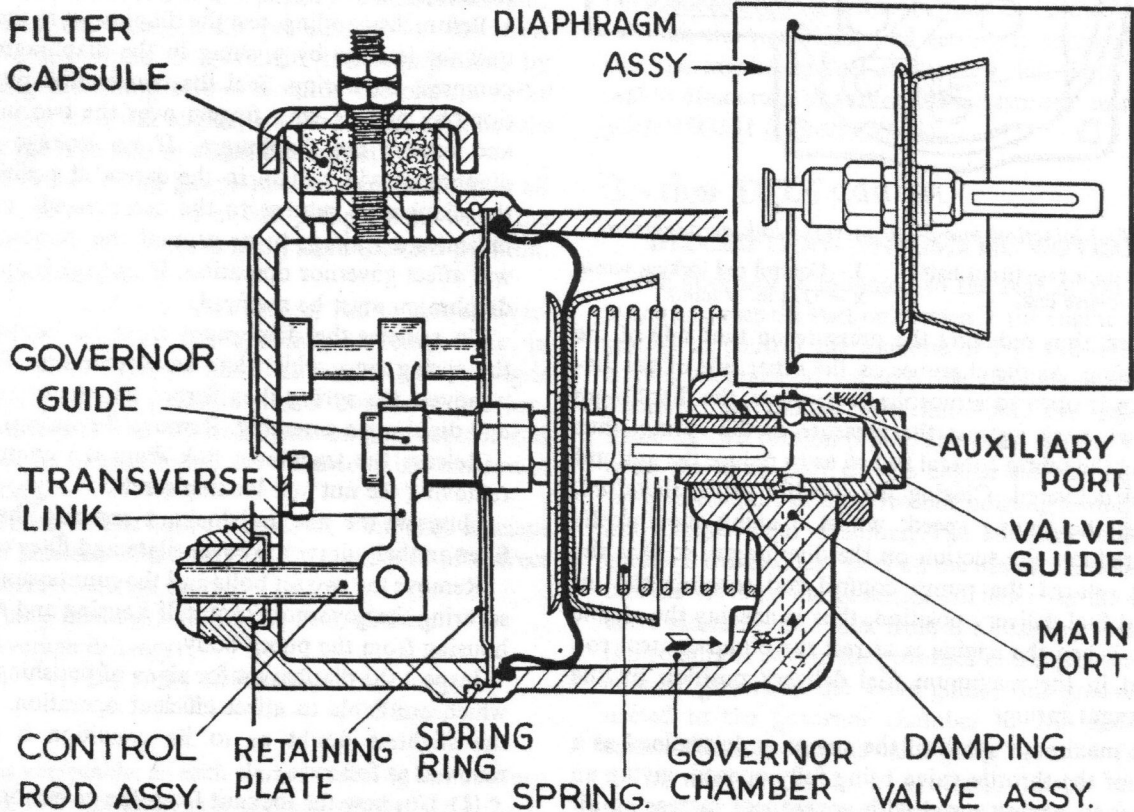

Fig. DD.10
- (1) Unscrew the locknut from the governor guide and remove the plain washer, the outer dished washer, and the diaphragm.
- (2) Fit a new diaphragm (see Fig. DD.10), replace the dished washer, lip facing outwards, and carefully retighten the locknut.